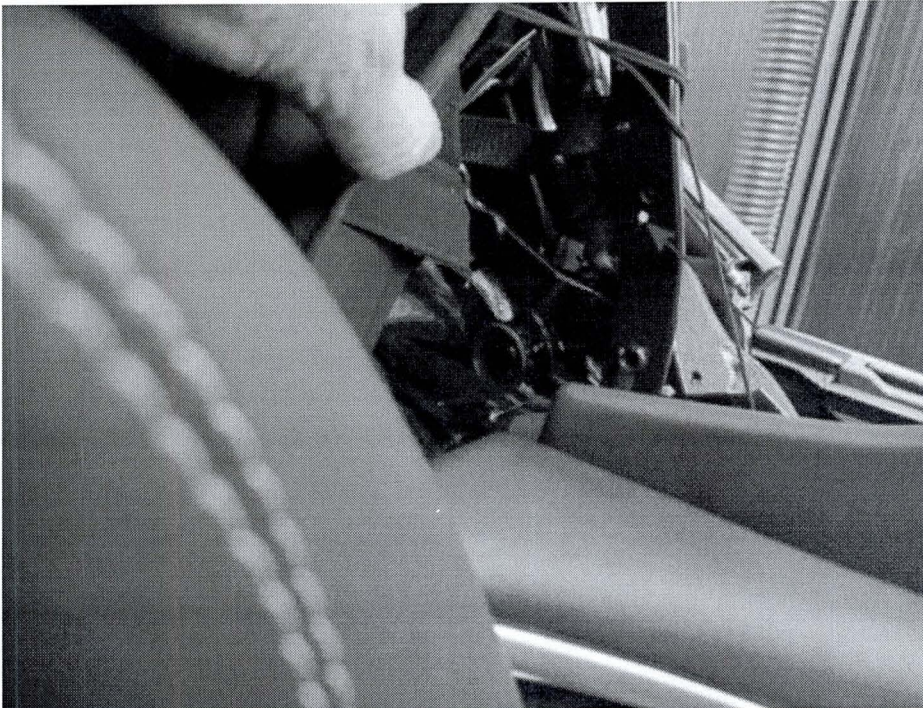

Figure 9
If the vehicle is not already listed as repaired in the "Repair history" (in Elsa pro), check for the campaign identification mark, white spot adjacent to rivet (see Figure 9), should neither be evident carry out the required work in accordance with these instructions
If the rectification measure had to be performed and therefore the larger rivet (B) was used then apply a white completion mark (see Figure 9)